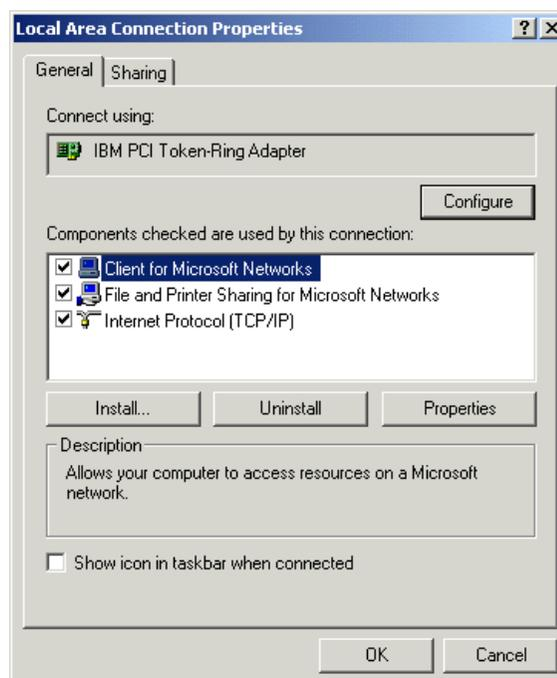

Figure 109. Local Area Connection Properties
3. Right-click the connection (adapter) you want to configure and select **Properties** from the context menu. You will see a window similar to Figure 109: